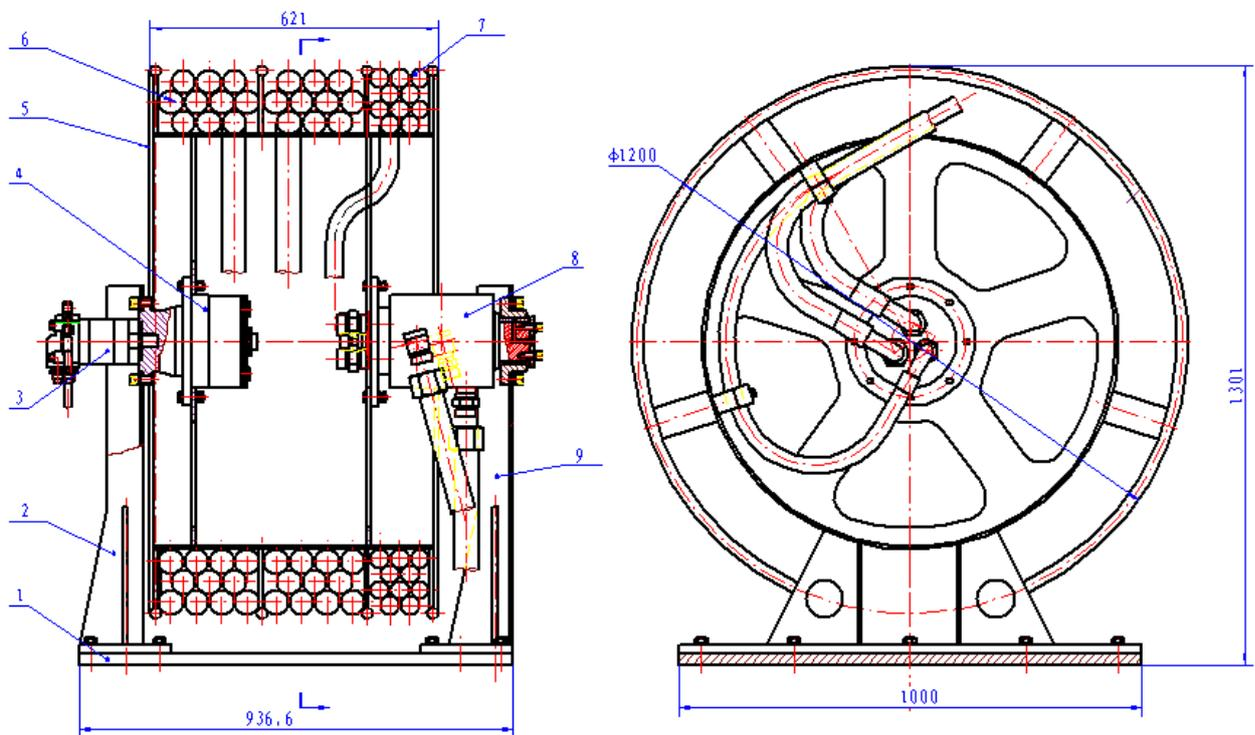

Fig 2-4-3 Hydraulic Hose Winch
3) Hydraulic Hose Winch: The hydraulic hose winch is an auxiliary function of the power unit, used for winding and storing hydraulic hose connected with swivel, as indicated in Fig 2-4-3. The hydraulic hose winch is composed of the Winch Bracket (1), the Hose Winch (2), the Hydraulic Motor (3), the Running Speed Reducer (4) and other main parts.